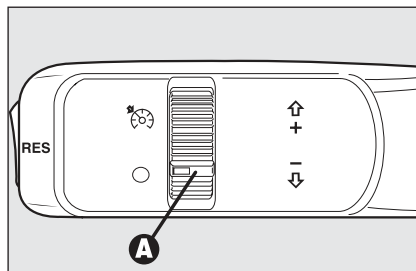

fig. 57
Turn knurled ring **A-fig. 57** to .
- ☐ turn the knurled ring **A-fig. 57** to  and press the accelerator pedal to the required speed;
- ☐ turning the knurled ring **A-fig. 57** to **O**;
In the event of device malfunction or failure, turn the knurled ring A-fig. 57 to 0 and contact Alfa Romeo Authorized Services after checking the protection fuse integrity.